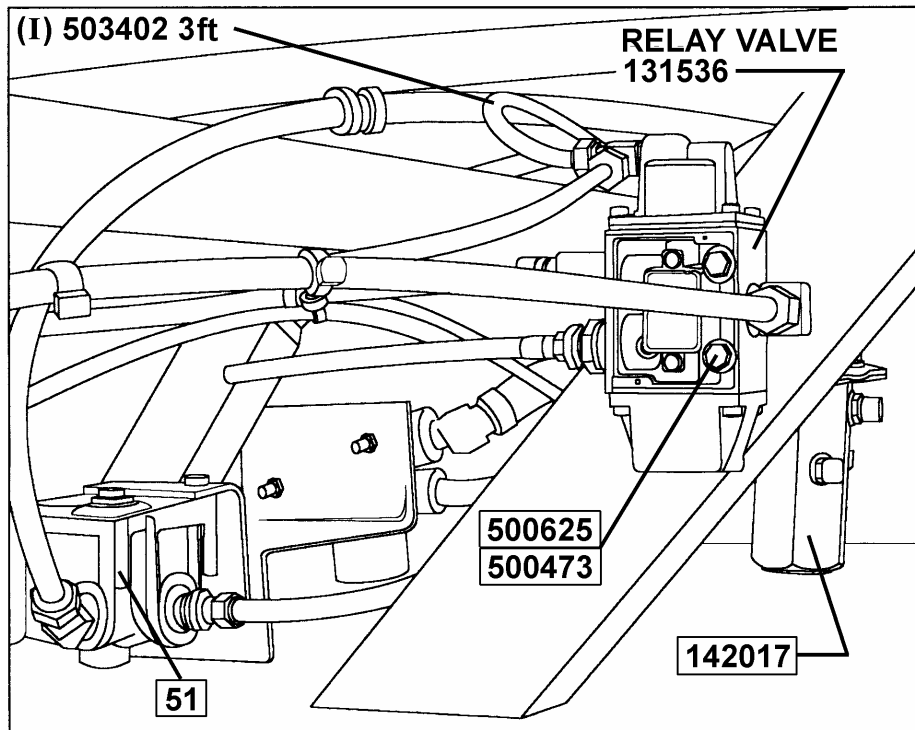

FIGURE 6 : R.H. RELAY VALVE LOCATION
3. Drill two 15/64" (6mm) holes to secure relay valve (Prévost #131536) to the same diagonal pillar. Use two self tapping screws (Prévost #500625) and two lock washers (Prévost #500473) (refer to figure 6).
4. Install a three foot long 1/4" O.D. black plastic tube (Prévost #503402) between the inversion valve and relay valve (Prévost #131536) (refer to figure 6).
6. Remove valve #63 and valve #35, remove unnecessary fittings as well as flexible tubing (refer to pneumatic diagram D-149198 p. 3). Install 1/4" bulkhead fitting (F) (Prévost #641148) and install 90° elbow fitting (Prévost #641371) onto brake cancellation valve (182).
8. Use 1/4" O.D. black plastic tube and cut in two different lengths in order to connect inversion valve to bulkhead fitting (G) and R.H. relay valve to L.H. relay valve (H).